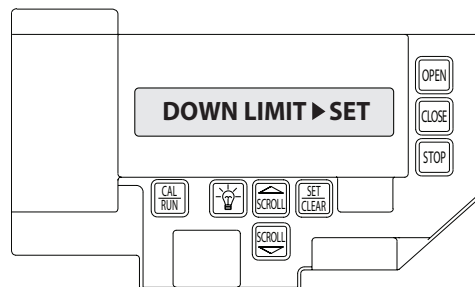

Figure 8
- 4) Press SET/CLEAR  key to switch display to "UP LIMIT>SET " or "DOWN LIMIT>SET ." **Figure 8.**
- 2) Press SCROLL  (up or down) until display reads "UP LIMIT>SET " or "DOWN LIMIT>SET." **Figure 8.**